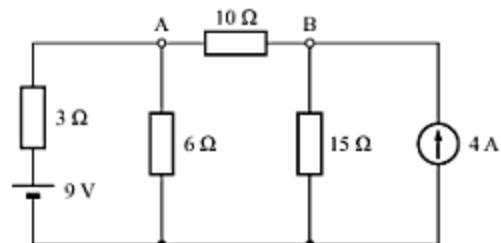

Fig. 4.41
- Find the current I in $10\text{-}\Omega$ resistor in the circuit shown in Fig. 4.41, using Thevenin's theorem. [Ans. -2 A]